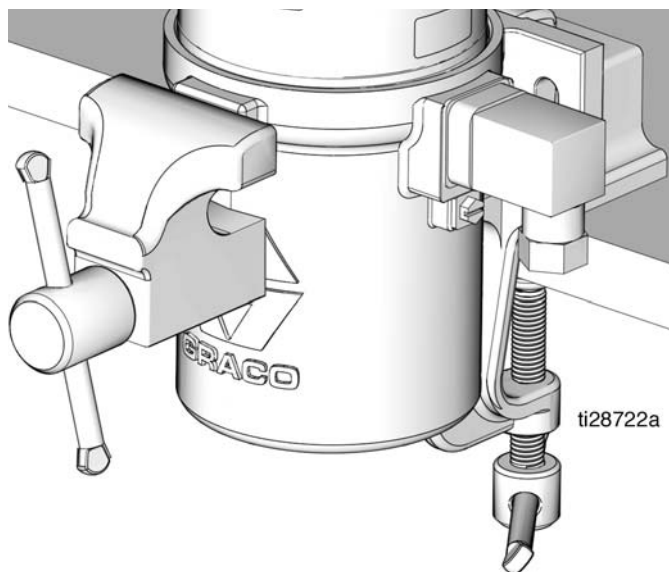

FIG. 12
8. Clamp the pump base in a vise as shown in FIG. 12. Use a soft-jaw vise or place a rag in the vise jaws to protect the surface of the pump base.